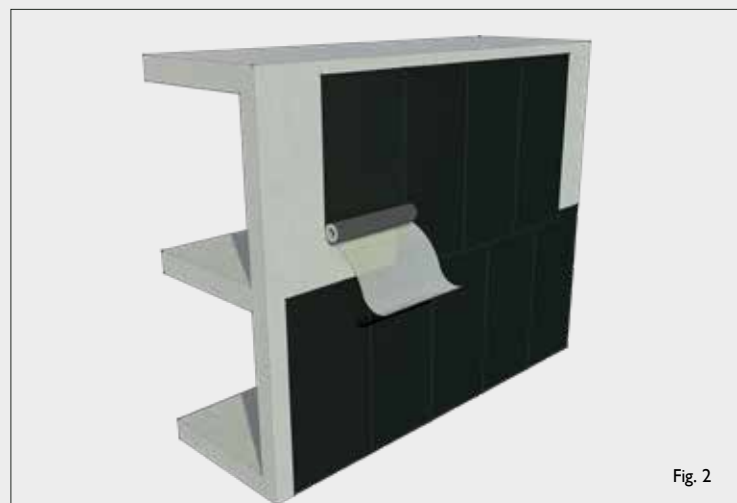

Fig. 2
6. Allow rest of rolled up material to drop down - with release paper still attached. Check for proper alignment (Fig.2).